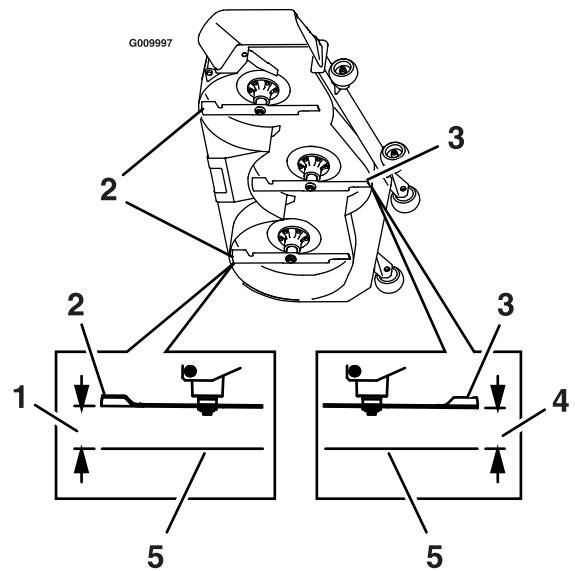

Figure 76
- Measure from the level surface to the front tip of the center blade (Figure 76).